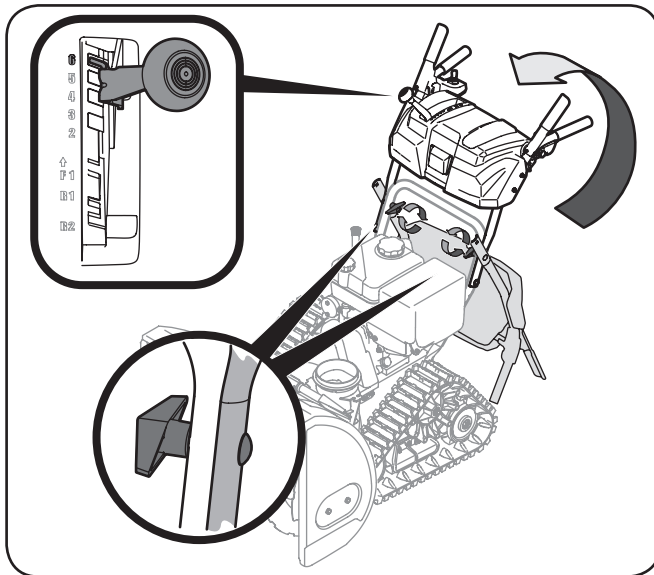

Figure 3-1
1. Place the shift lever in the Forward-6 position. See Figure 3-1.
3. Pivot handle upward and align the tab at the end of the upper handle with the hole in the lower handle. Secure the handle by tightening the plastic knob located on both the left and right sides of the handle. See Figure 3-1. Remove and discard any rubber bands, if present. They are for packaging purposes only.